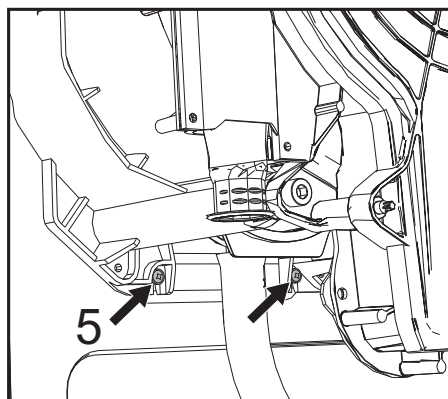

fig. 49
- Loosen the 2 **bottom** screws "5" securing the exchanger to the frame (fig. 49)